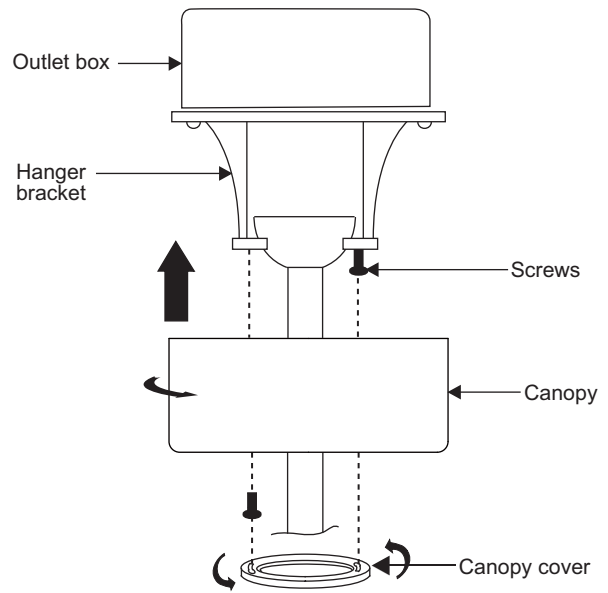

Figure 10
**NOTE:** Adjust the canopy screws as necessary until the canopy and canopy cover are snug. (Fig. 10)